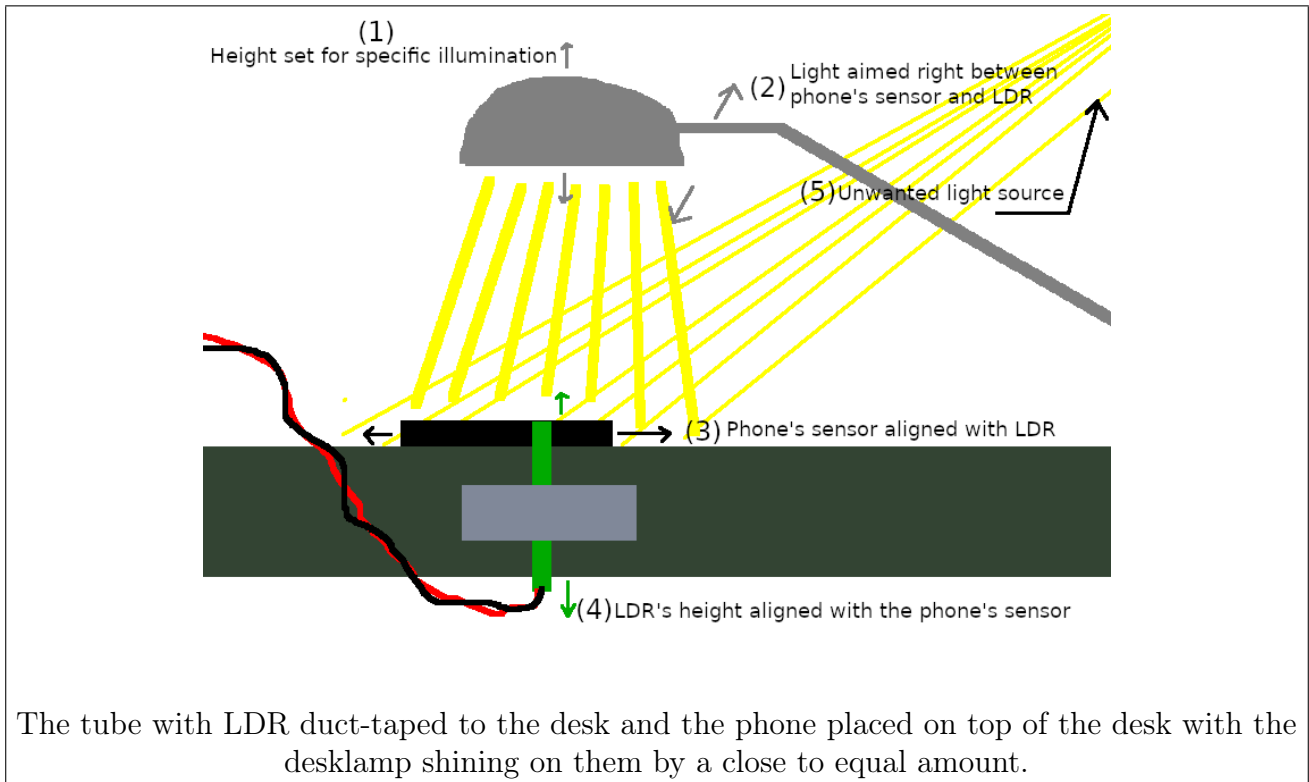

Figure 17: Usage of the modified desk lamp for controlled illumination
This is very far from perfect. See figure 17: For dark settings (lamp further away) the other light sources in the room (5) become more and more significant and those are not in any way controlled. For bright settings (lamp closer), (2) and (3) will have a larger and larger impact on the angle to the LED bulb and (4) will have a relatively large impact.